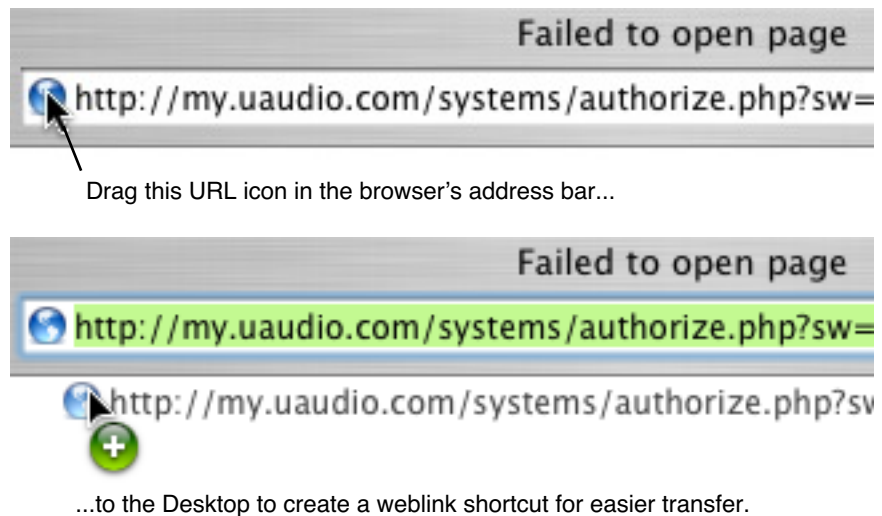

Figure 4. Creating the URL shortcut
- a) Drag the URL icon to the Desktop to create a weblink shortcut then transfer the weblink shortcut to the internet computer (preferred, Figure 4), OR